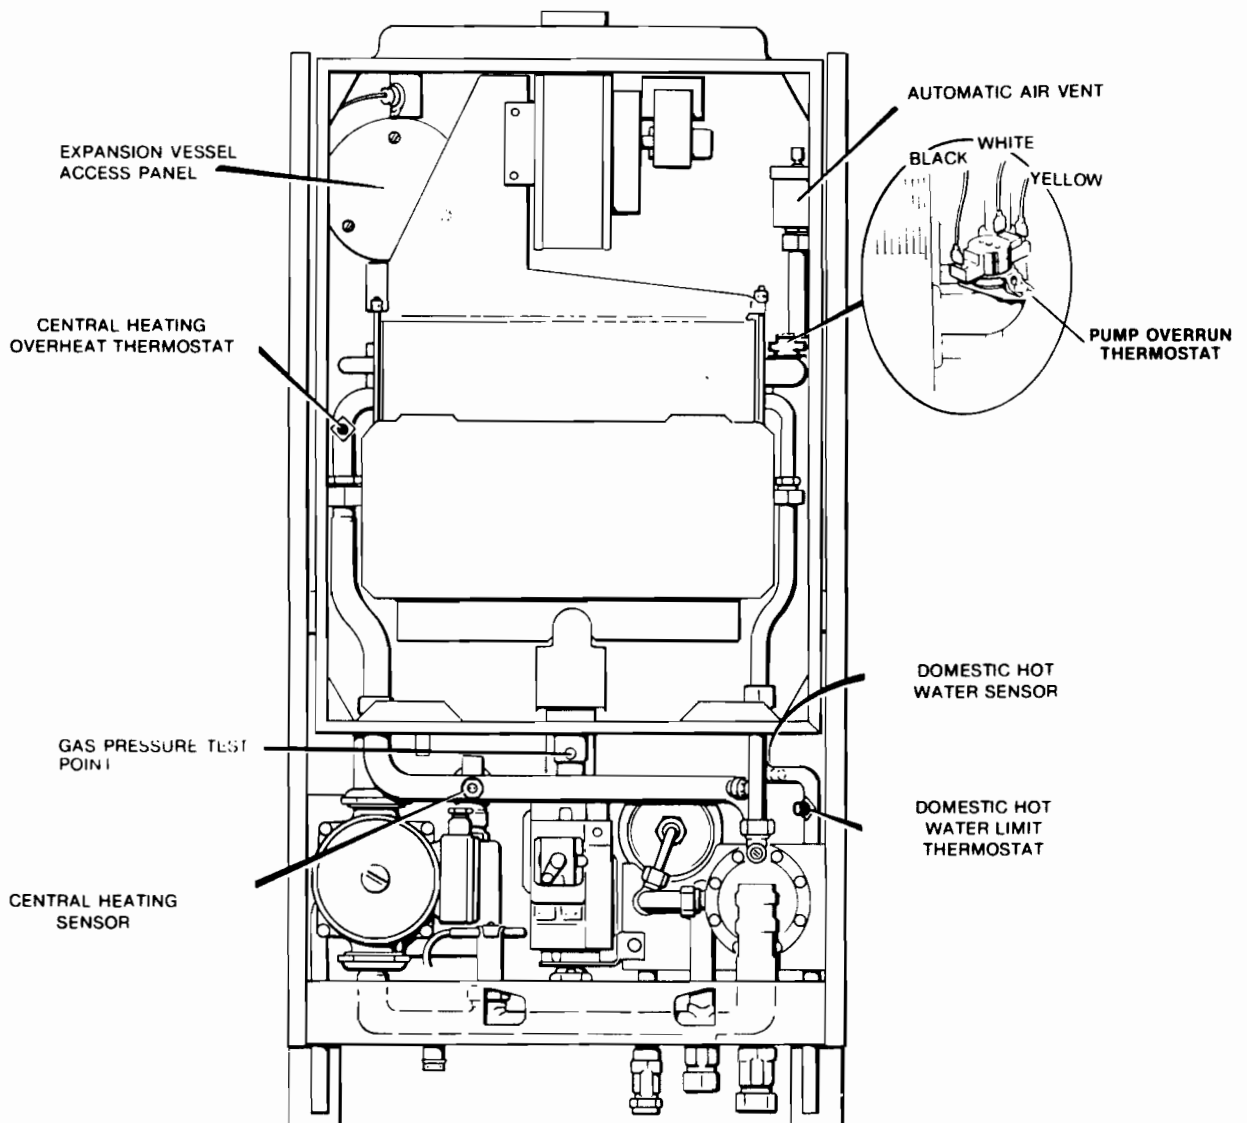

FIG. 30
### (3) INITIAL LIGHTING (Refer Fig.30)
- o) Lower the control panel (one screw) and remove the screw in the gas pressure test nipple, (see Fig. 30) and fit a pressure gauge via a flexible tubing to the burner gas pipe.